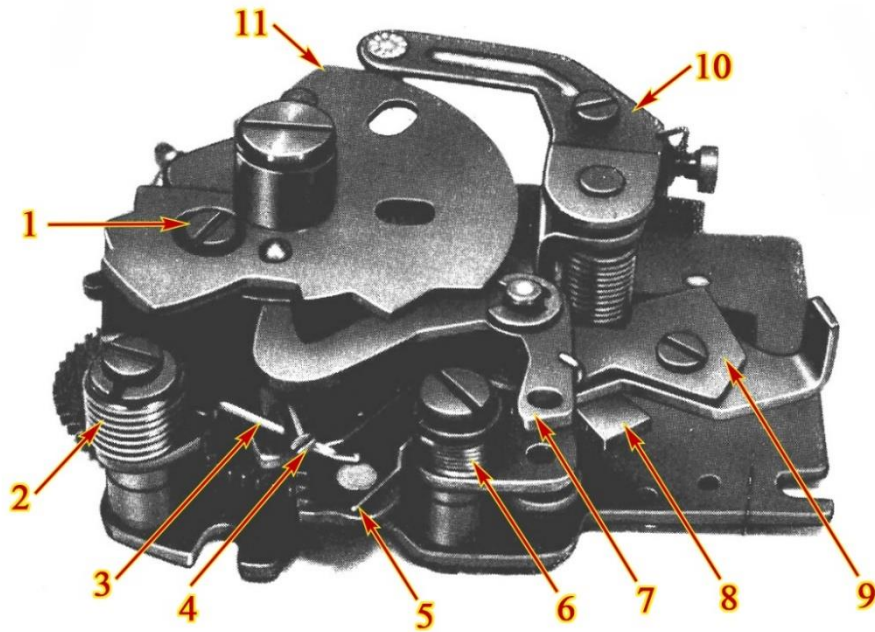

Fig. 1: Timing machine (Hemmwerk) from the Pentacon six repair manual
- 3) **For times 1/60, 1/30 and flash:** lever of short times 9 is held by second speed curve 17 from top out of take. These times are regulated by lever of long times 10 running along on the uppermost speed curve 11. Lever 10 controls so-called clockwork via toothed section 8. Toothed section 8 controls by its end (in Figure 1, this end is pointed to by arrow with number 8) lower pin 13 of time lever 15. Time lever 15 blocks second curtain from running until running of timing mechanism has finished and time lever releases second curtain.
- 4) **For times 1/15 to 1 second:** the lever of short times 9 is again held by the second (from the top) speed curve 17 out of take. These times are also regulated by lever of long times 10 running on uppermost speed curve 11 and controlling so called clockwork via toothed section 8. Toothed section 8 also controls by its end (in Fig. 1 this end is pointed to by arrow with number 8) lower pin 13 of time lever 15, as in the case of times 1/60 to flash.